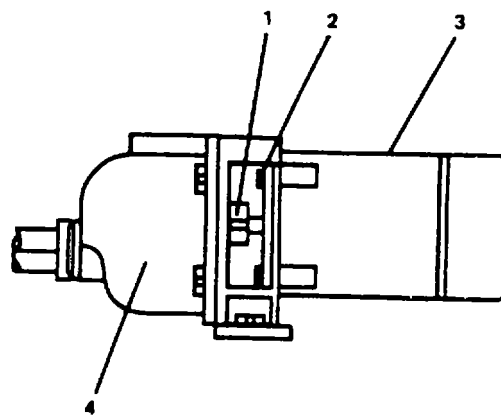

Figure 2-138. Pump Motor Assembly.
- c. Loosen setscrew (1, Figure 2-138).
- d. Remove four motor retaining bolts (2) from motor (3).
- e. Remove motor (3) by pulling straight out from pump body (4).
- b. Install motor (3, Figure 2-138) by pushing it straight into pump body (4).
- c. Install four motor retaining bolts (2). Tighten bolts.
- d. Tighten setscrew (1).
- f. Install electrical junction box cover (2) with screws (1). Tighten screws.